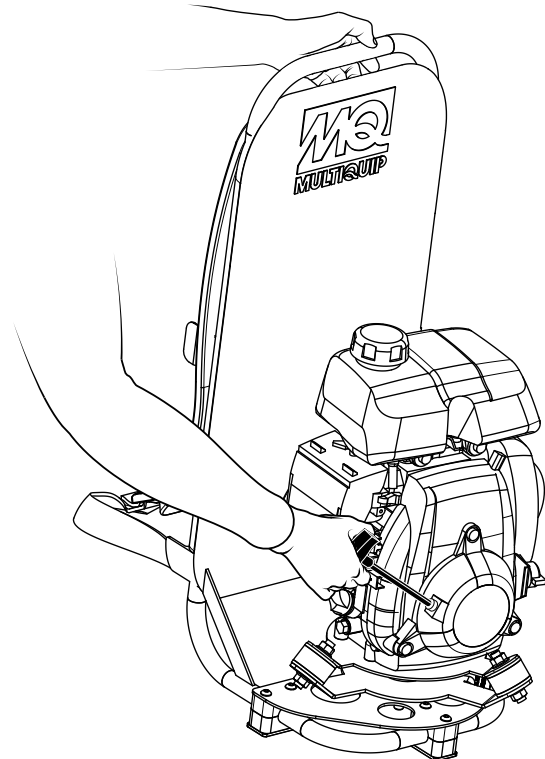

Figure 14. Starter Grip
- Slowly pull the starter grip (Figure 14) until resistance is felt, then pull briskly and smoothly to start the engine. Gently return the starter grip to its original position.